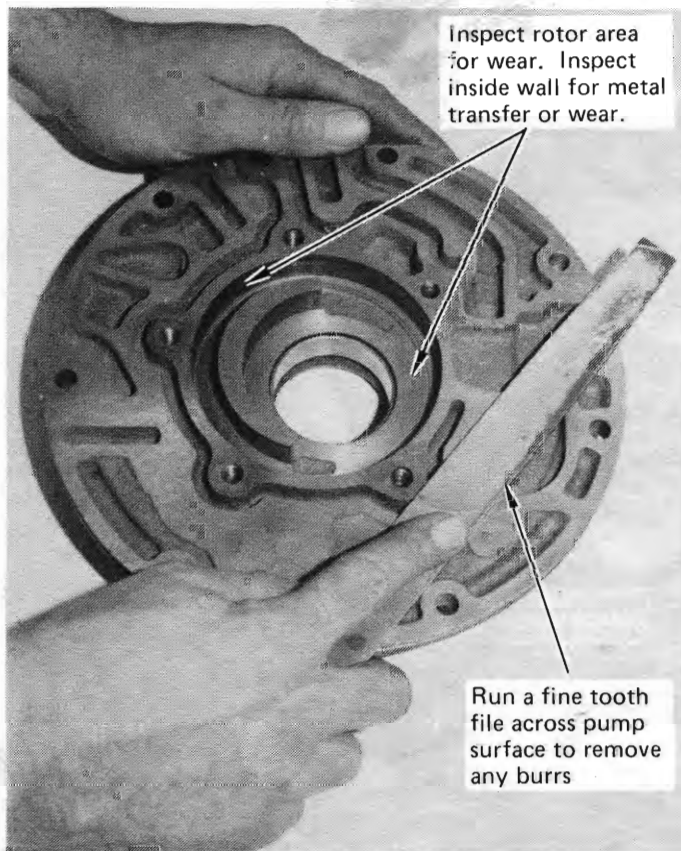
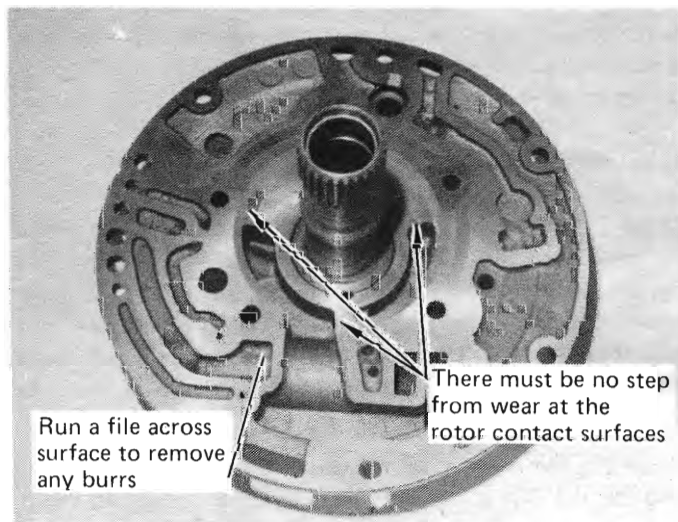
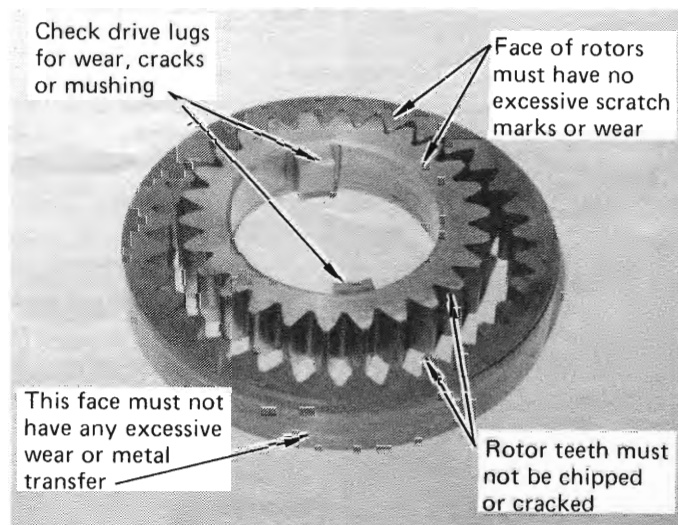
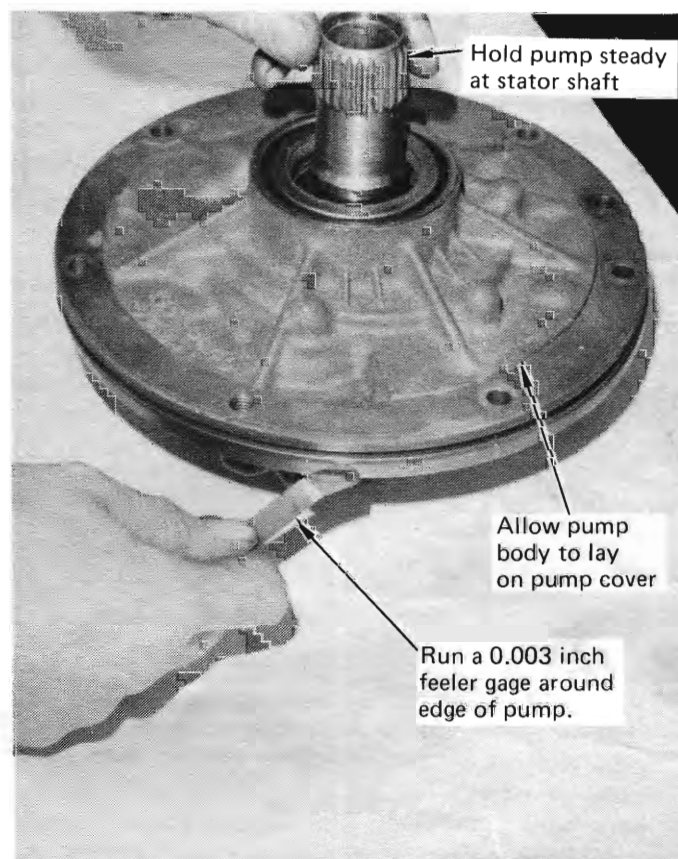

FIGURE 33
FIGURE 34
FIGURE 35
FIGURE 36
STEP 1. Inspect oil pump body for damage. The area where the pump rotors ride should have no excessive wear. (See Fig. 33) Some scratch marks are normal. The rotor face of the pump cover should have no step at any point where the rotors ride. (See Fig. 34) The rotors themselves should have clean faces and the outer edge of the large rotor should show no metal transfer or wear. (See Fig. 35)
STEP 2. Use a large flat fine-tooth file to remove any high spots on the face of the body and cover. (See Fig. 33) Clean the pump halves in solvent to remove any metal particles. Lay the mating surface of the pump body on the upright cover and run a 0.003 inch feeler gage around the edge. (See Fig. 36) The gage should not find any large gaps greater than 0.003 inch. If the mating surfaces vary excessively check for burrs, nicks or high spots which may be causing the problem. Excessive warpage indicates the pump will have to be replaced.